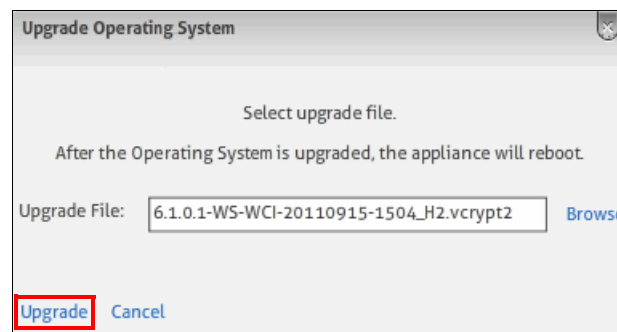

Figure 4-107 Upgrading Operating System page
5. Click **Browse**, and select the .vcrpt2 file that you downloaded. Click **Upgrade**, as illustrated in Figure 4-107.